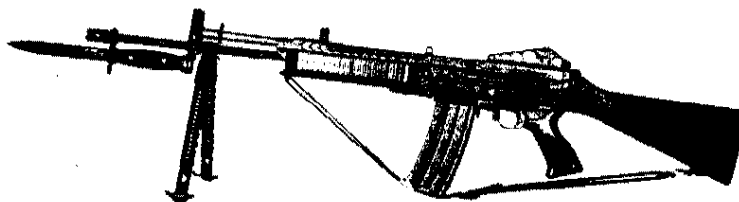
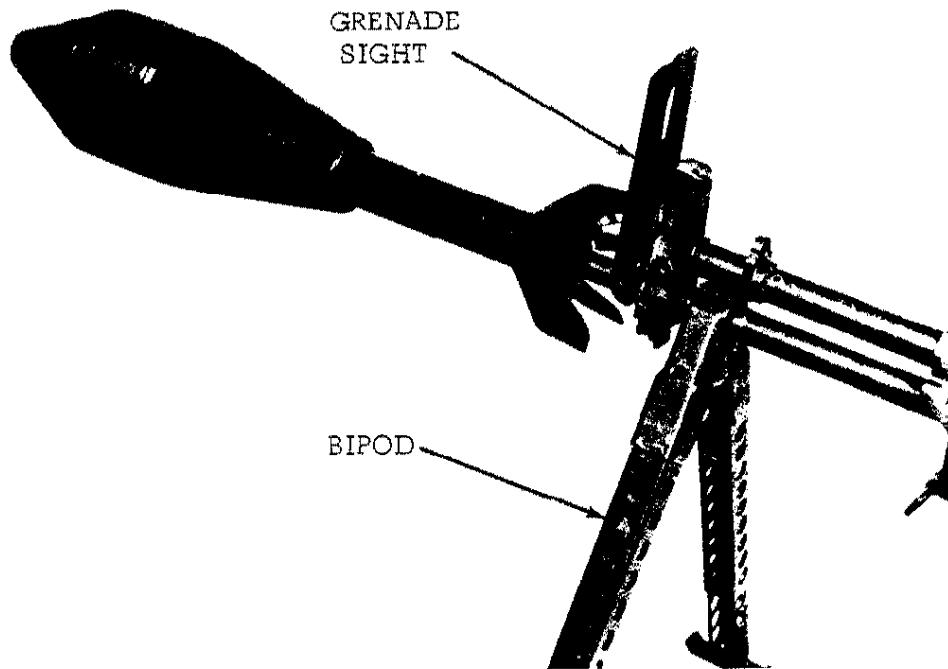

FIGURE 2. STONER RIFLE - WITH BIPOD AND BAYONET
FIGURE 3. RIFLE GRENADE AND BIPOD ON RIFLE
b. The rifle has a dual range sight system for simplicity and reliability. Basic sight settings are fully adjustable in 1 minute of angle increments in windage and elevation. For ease in adjustment under field conditions the sights are readily adjusted by using the point of the 5.56mm cartridge. At each incremental adjustment the sights are positively locked in place to prevent inadvertent misalignment. A bayonet and snap-on bipod are provided for the rifle as shown in figure 2. The flash suppressor serves as a grenade launcher capable of launching rifle grenades presently in the system, as shown in figure 3. A conventional spring-loaded, 30-round magazine feeds the ammunition to the rifle.